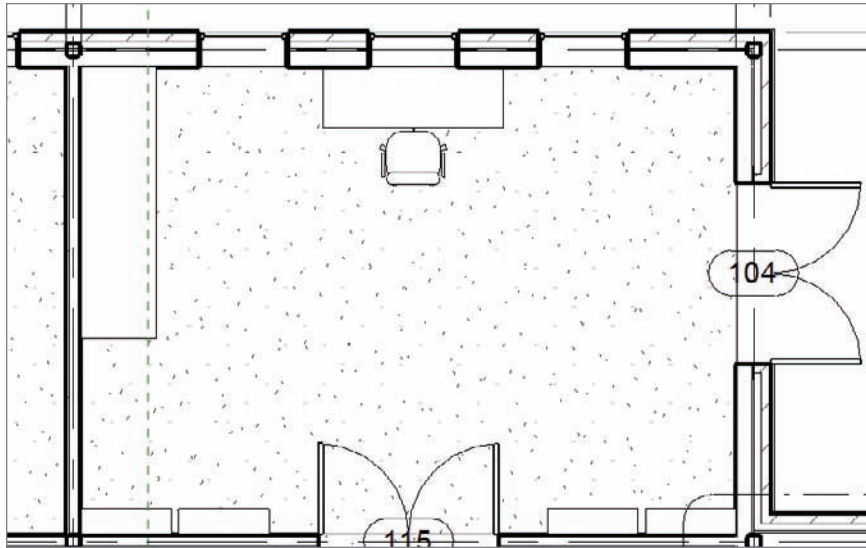

FIGURE 9.53 Adding furniture to the office
9. From the Change Element Type menu, select Chair-Executive and place it in front of the credenza, as shown in Figure 9.53.
10. In the Properties dialog, select the Entertainment Center 96" × 84" × 30" and place it in the corner, as shown in Figure 9.53.
11. Place four 36" shelving units across the south wall, as shown near the bottom of Figure 9.53.